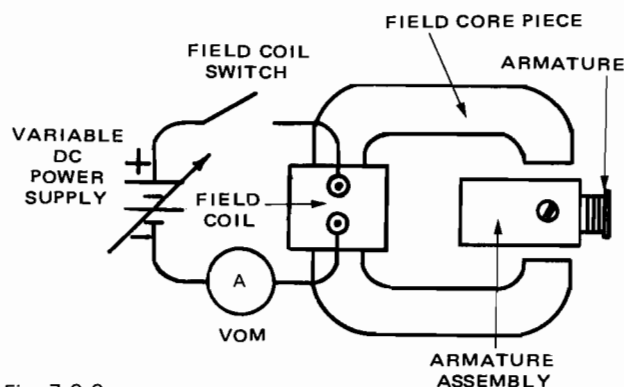

Fig. 7-3-3
- Using left-hand rule of magnetism, determine polarity of electromagnetic field coil. Mark your predicted polarity on field core in Fig. 7-3-3.